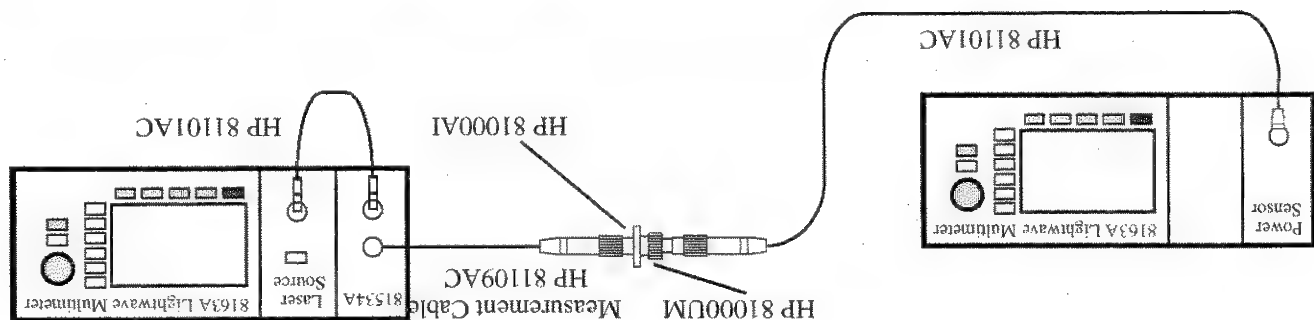

Figure 94
- 17 Connect the reference cable to a Power Sensor, for example, a Connector Pair, as shown in Figure 94.